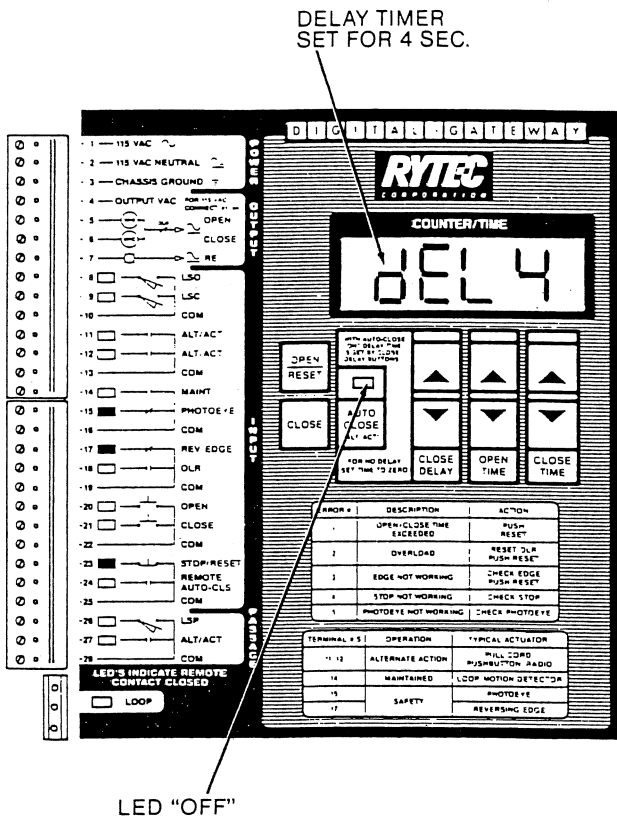

Figure 9.
4.1.1 With the Auto-Close function "OFF," the Close Delay buttons are used to set the "dEL" timer. See Figure 9.